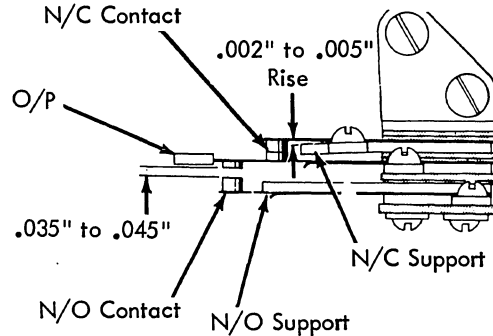

FIGURE 149. Carrier Return Interlock Inactive.
- a. Form the N/C support so that the O/P lifts the N/C contact .002" to .005" (Fig. 149).
- b. Form the N/O support so that the O/P clears the N/O contact .035" to .045" (Fig. 149).